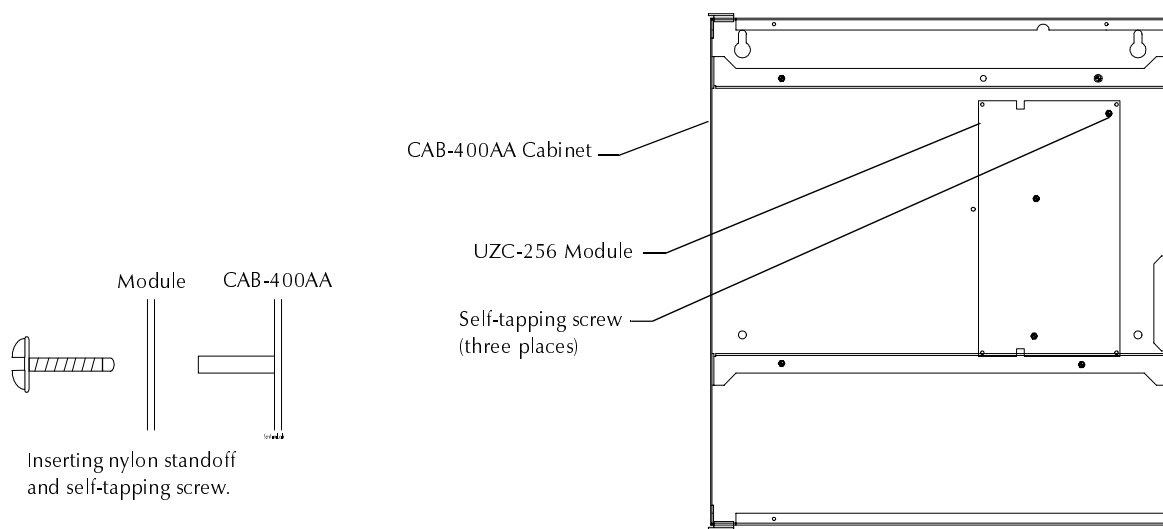

Figure 2-28 Mounting the UZC-256 into a CAB-400AA Cabinet
1. Place the module into the CAB-400AA as shown in Figure 2-28.